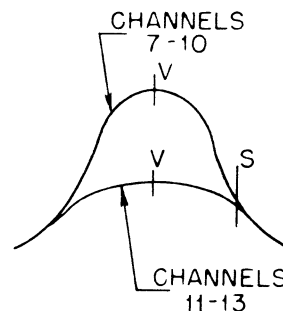

FIGURE 11. RF RESPONSE CURVES CHANNELS 7-13
6. The antenna coils are tuned to the video carrier frequency and the RF coils are tuned to the sound carriers. Figure 10 shows the shape of the curve which should appear on the scope for channels 2-6 and Figure 11 the curves for channels 7-10 and 11-13.
8. Adjust ceramic trimmer, C-6, so that picture and sound markers are as in Figure 11.